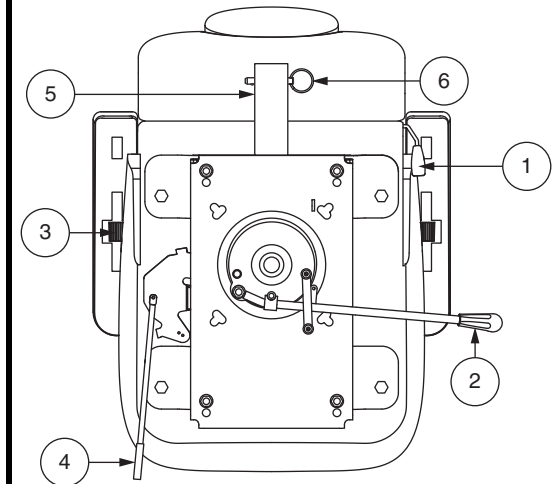

Figure 15. Seat Adjustments – Style B
If your scooter is equipped with a reclining seatback, you can adjust the seatback angle with the seatback adjustment lever. See figure 15.
1. Move the seat sliding lever (located at the lower left side of the seat) outward. See figure 15.
Armrest angle of your scooter can be adjusted upwards or downwards by turning the adjustment dial. See figure 15.
The rear-mounted accessory bracket allows you to attach a personal accessory such as a basket, walker holder, or oxygen tank to the back of your scooter. Utilize the detent pin to securely mount your item to the accessory bracket. See figure 15. See your authorized Provider for details.